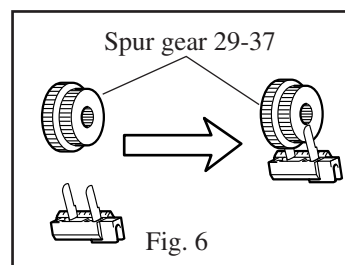

Fig. 6
3. Set the above assembled one to spur gear 29-37 as illustrated Fig. 6 right.